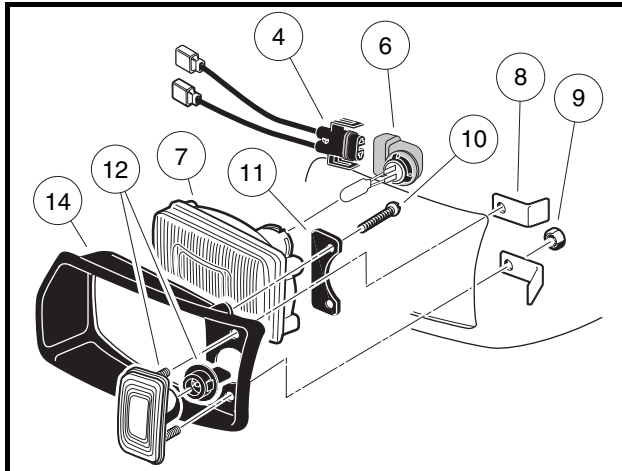

Figure 14-29 Headlight Assembly
2. From the front of vehicle, reach under cowl and turn the wire harness/halogen bulb assembly, (4 and 6), clockwise one-quarter turn (**Figure 14-29, Page 14-27**).
3. Remove the wire harness/halogen bulb assembly (4 and 6) from the headlight lens (7).
4. Lift the retaining tabs on the connector (4) and remove halogen bulb assembly (6).
1. Connect wire harness (4) to the halogen bulb assembly (6). The retaining tab should lock onto the halogen bulb assembly (**Figure 14-29, Page 14-27**).
2. From the front of vehicle, reach under cowl and insert wire harness/halogen bulb assembly (4 and 6), into the headlight lens (7).